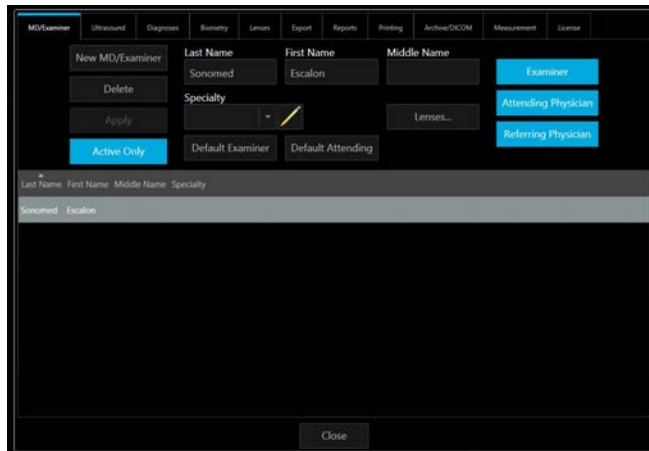

Figure 1 Configure Screen
- ① The home screen is the patient database which shows a history of patients and their respective exams. From this screen, select the <Configure> button (Figure 1).
- ② Select “New MD / Examiner” tab and enter the requested information using the keyboard and clicking the <Apply> button. Each MD/Examiner can be designated as an examiner, attending physician, and/or referring physician.